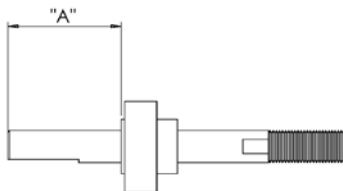

Figure 3
1. If the shaft, or the first bearing on a 12" model was replaced, you will need to slide the new bearing onto the shaft with the setscrew side facing away from the motor. Adjust the bearing to the correct setting in Figure 3, and tighten both setscrews.